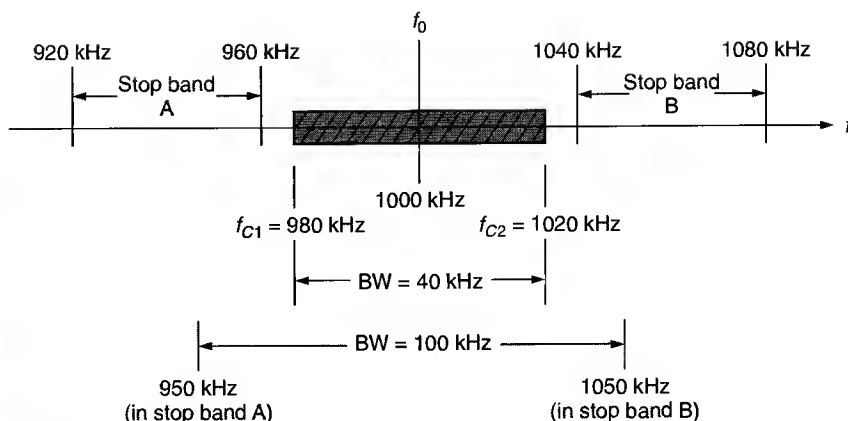

FIGURE 17.4 Frequency bands.
The first statement almost goes without saying. As with any circuit, the closer a tuned circuit comes to its ideal characteristics, the better. (This has been the case with every component and circuit we have discussed.) The second statement warrants discussion. In Chapter 14, we viewed the frequency response of an amplifier as being a *limitation*. In other words, we normally consider an *infinite* bandwidth to be ideal. This is not the case with tuned amplifiers. *With tuned amplifiers, we want a specific—usually narrow—bandwidth.* For example, take a look at Figure 17.4. Here we see a *pass band* (shaded) with two *stop bands*, A and B. If a tuned amplifier is designed to have a center frequency of 1000 kHz and a bandwidth of 40 kHz, that amplifier can pass all the frequencies within the pass band while rejecting all those in either of the stop bands. However, if we used a tuned amplifier with the same center frequency and a bandwidth of 100 kHz, that amplifier would pass a portion of the frequencies in both stop bands. This is not an acceptable situation. A tuned amplifier must pass all the frequencies within the pass band while stopping all others. Therefore, we want a given tuned amplifier to have a specific, usually narrow, bandwidth. With this in mind, let’s take a look at the relationship between roll-off rate and bandwidth.
The frequency ranges shown in Figure 17.4 could represent the frequency ranges of three AM radio stations. If the tuned amplifier has a bandwidth of 40 kHz, it will pick up only the radio station to which it is tuned (the center station). If the tuned amplifier has a bandwidth of 100 kHz, it will not only pick up the center station, it will pick up the other two (both stations shown).
amplifiers. The curves indicate that the circuits have the same geometric center frequency (f_0), yet the circuit with the lower roll-off rate has a much greater bandwidth. If we apply this principle to the frequency groups in Figure 17.4, we can see that we must limit the roll-off rate of a tuned amplifier if it is to be used for a specific application. The roll-off rate and bandwidth of a tuned amplifier are controlled by the *quality* (Q) of the circuit.
What is the required Q of a tuned amplifier used for the application shown in Figure 17.4?
Solution: The pass band in Figure 17.4 has a geometric center frequency of 1000 kHz and a bandwidth of 40 kHz. Using these two values, the required Q is found as